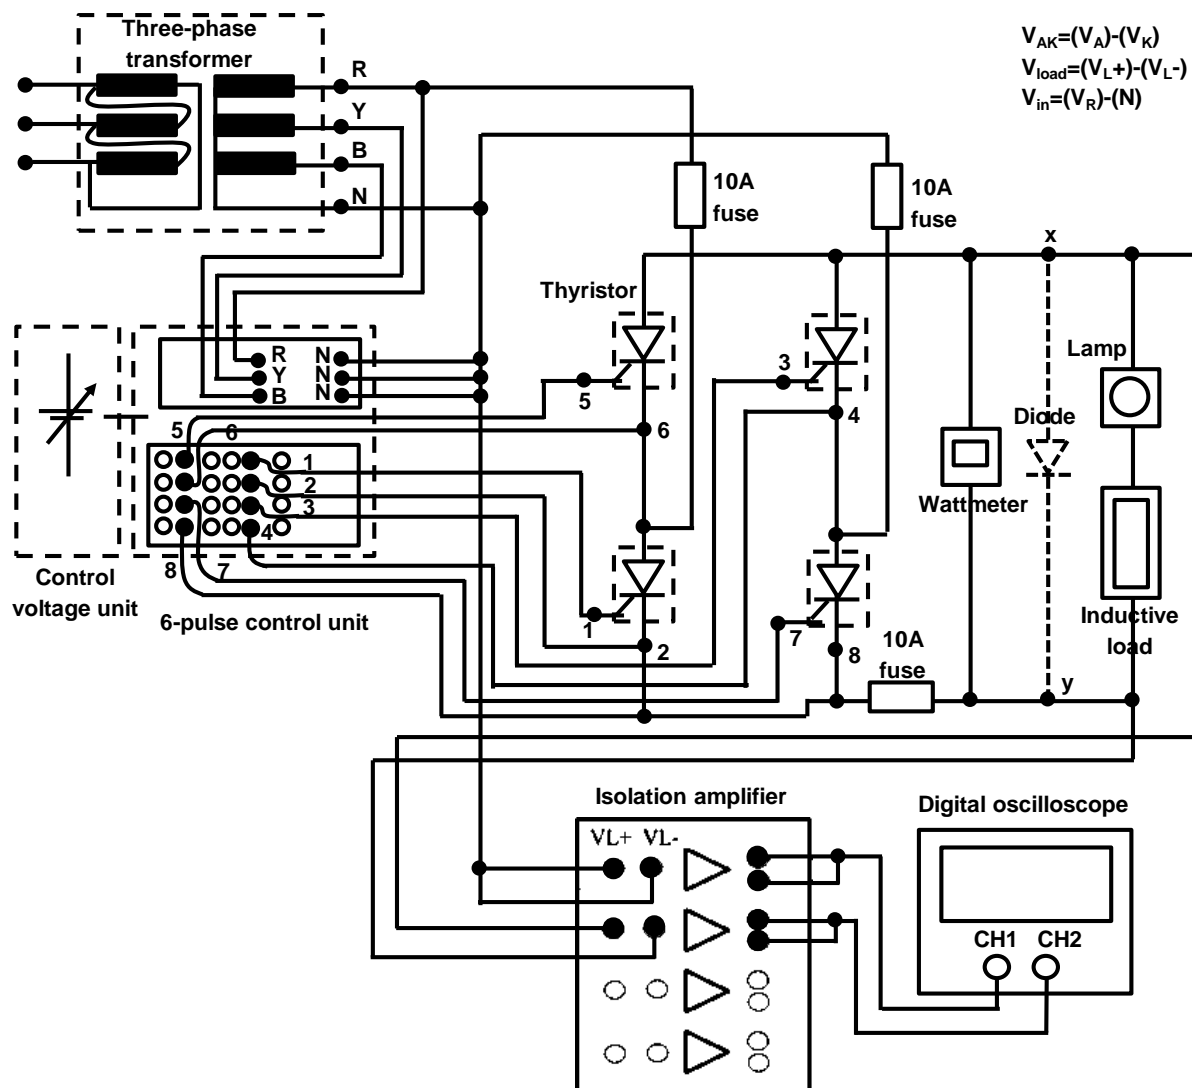

Figure 2
1. Connect the circuit as shown in Figure 2. Change the firing angle using voltage control from 0V to 10V at interval of 1V. Measure and record the DC voltage at load V_{da} in Table 2. At firing angle of 90° , save the input voltage V_{in} and load voltage V_{load} curves from the oscilloscope figure in a pendrive or capture using a camera.